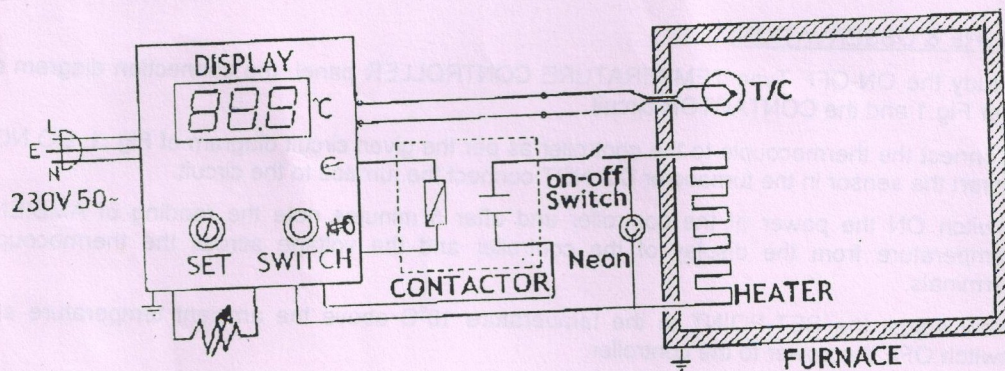

Fig. 2. ON/OFF Type Temperature Controller Circuit
5. Insert the sensor through the hole provided for on the wall of the furnace. Close the door of the furnace and interconnect the contactor and furnace heater circuit to the controller as shown in Fig. 2.